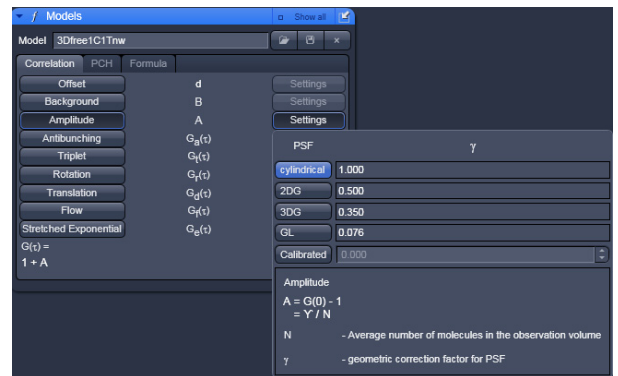

Fig. 9-58 Amplitude Settings panel
- You can set a value for the geometric factor γ , which describes the point-spread function (Fig. 9-58).
- By pressing the **cylindrical**, **2DG**, **3DG** and **GL** buttons you can select a cylindrical, 2 dimensional Gaussian, 3 dimensional Gaussian (3DG) and Gaussian-Lorentzian (GL) PSF, respectively. If you press the Calibrate button, you can type in a user defined number in selection box or use the arrows to set a value.